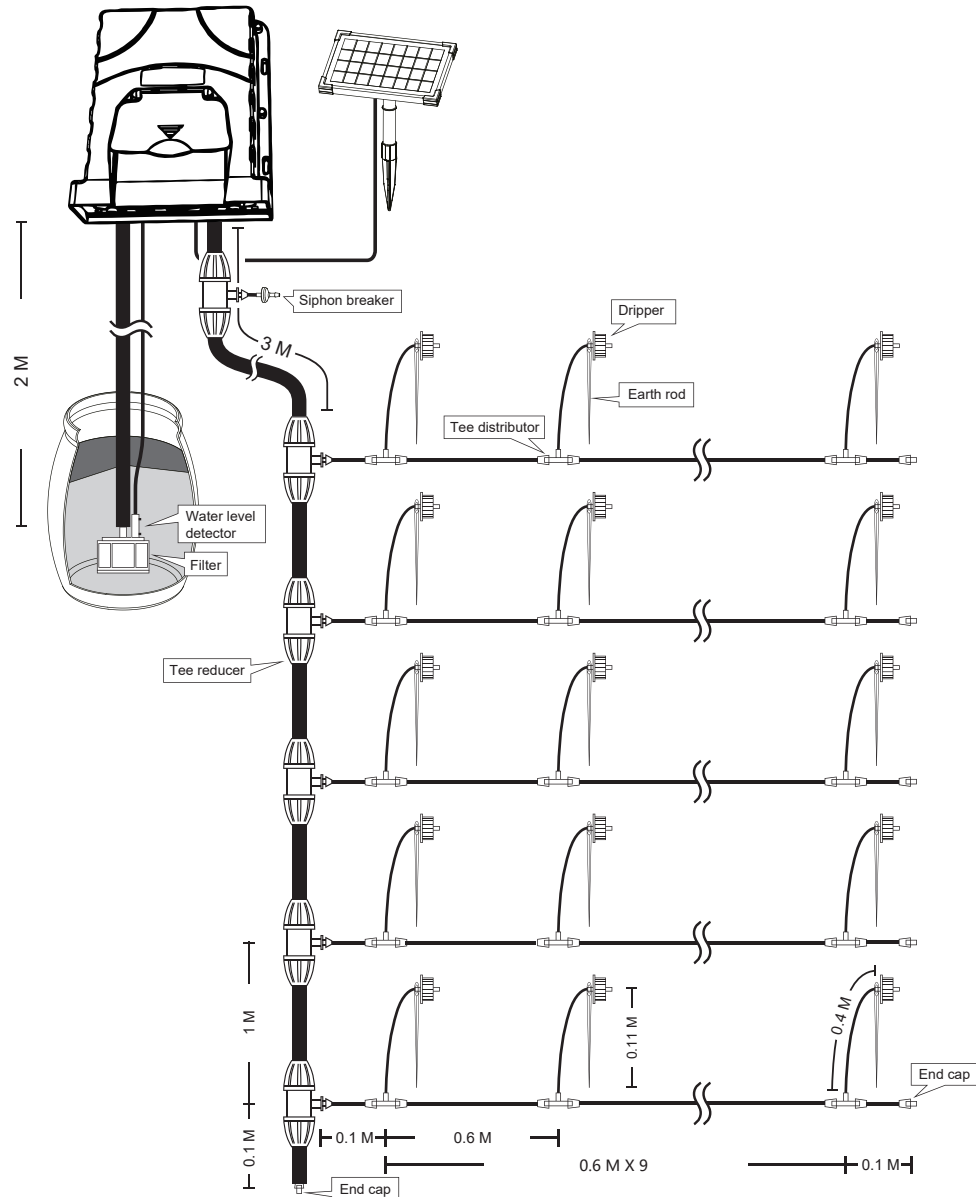

Figure 1
- 2) Find an appropriate location for the placement of the control unit. The control unit can be installed **vertically (recommended)** as shown in **Figure 2** or laid flat. Its water inlet on the bottom should be higher than the maximum possible water level of the water reservoir but no more than 2 meters higher than the minimum water level of the water reservoir (referring to **Figure 1: Recommended system installation schematic**). The location should be able to avoid the control unit getting dipped into water when raining.
11) Install drippers near the plants to be watered with the help of earth rods as shown in **Figure 1**.
12) Construct the water distribution line with distribution hose and T distributors as shown in **Figure 1**. Each dripper needs a T distributor to get access to water.